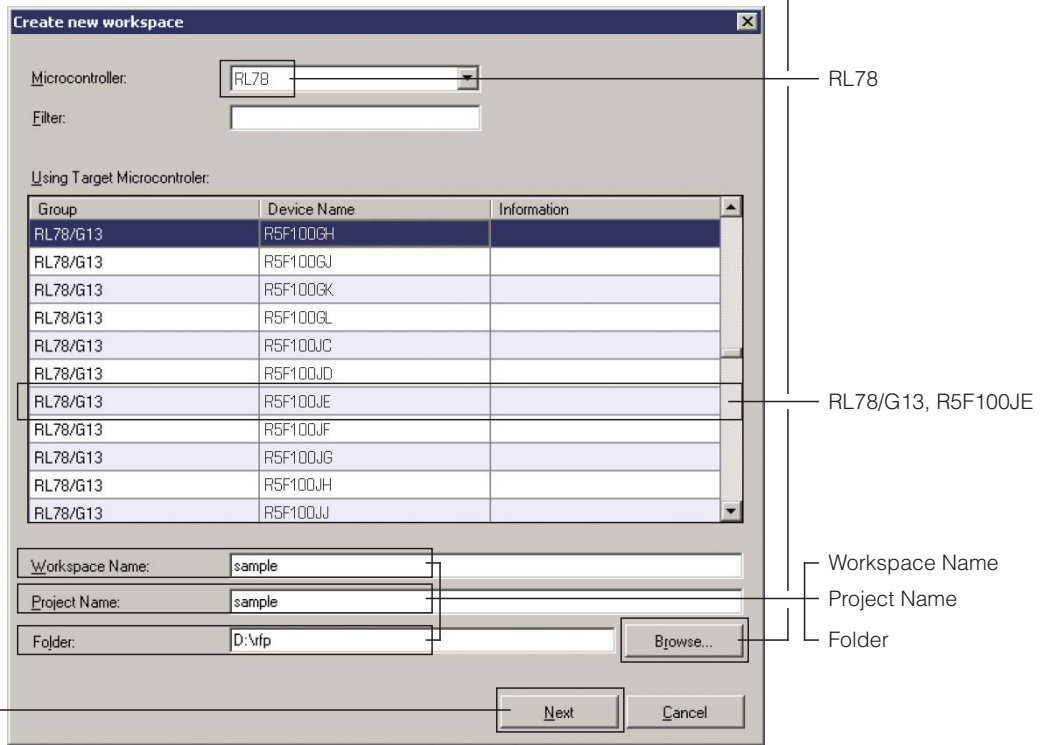

Fig. 3
4. Select the type of the microprocessor and make the workspace. (Fig. 3)
- * Click [Browse...] and specify the place where the workspace is made. (Fig.3)
5. Click [Next]. (Fig. 3)